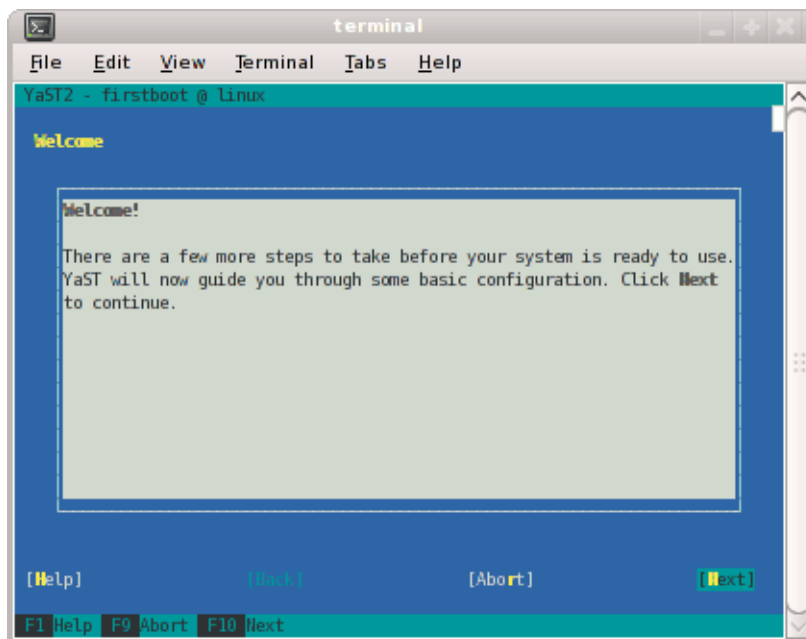

Figure 2-2 YaST2 - firstboot@Linux Welcome Screen
5. After the reboot completes, you will eventually see the **YaST2 - firstboot@Linux Welcome** screen, as shown in Figure 2-2 on page 40. Select the **Next** button to continue.